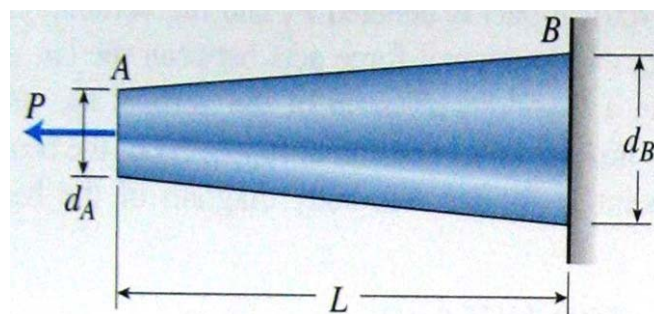

Figure Q1.2
- (b) Determine the elongation of the bar due to load P as shown on Figure Q1.2 [10]